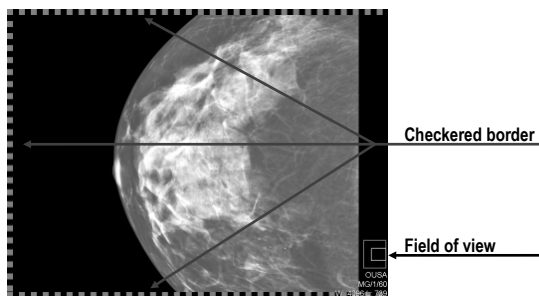

Figure 458 – Only part of the image is visible within the view
- The appearance of a checkered border which can be activated/deactivated by checking/unchecking the **Show checkered border when the entire image is not displayed** check box on the **Mammography** tab of the **Options** dialog (see 4.8 Mammography). If the check box is checked, the part of the image that is not visible within the view is indicated by a checkered border on the corresponding edge of the view (see Figure 458).